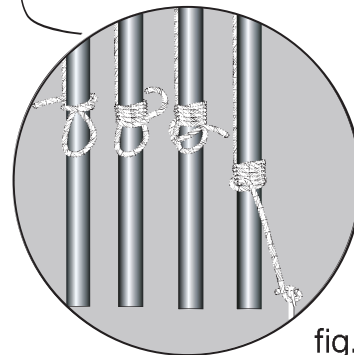

fig.6
- Secure the center pole. Drive a stake into the ground near the base. Tie a jump rope around the center pole and to the stake. See fig. 6.